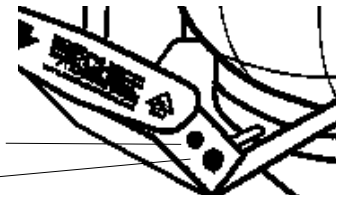

Figure 2
- Air inlet on control base handle accepts 1/4 inch NPT fitting. (See Figure 2.) Add a few drops of pneumatic tool oil to air inlet monthly.